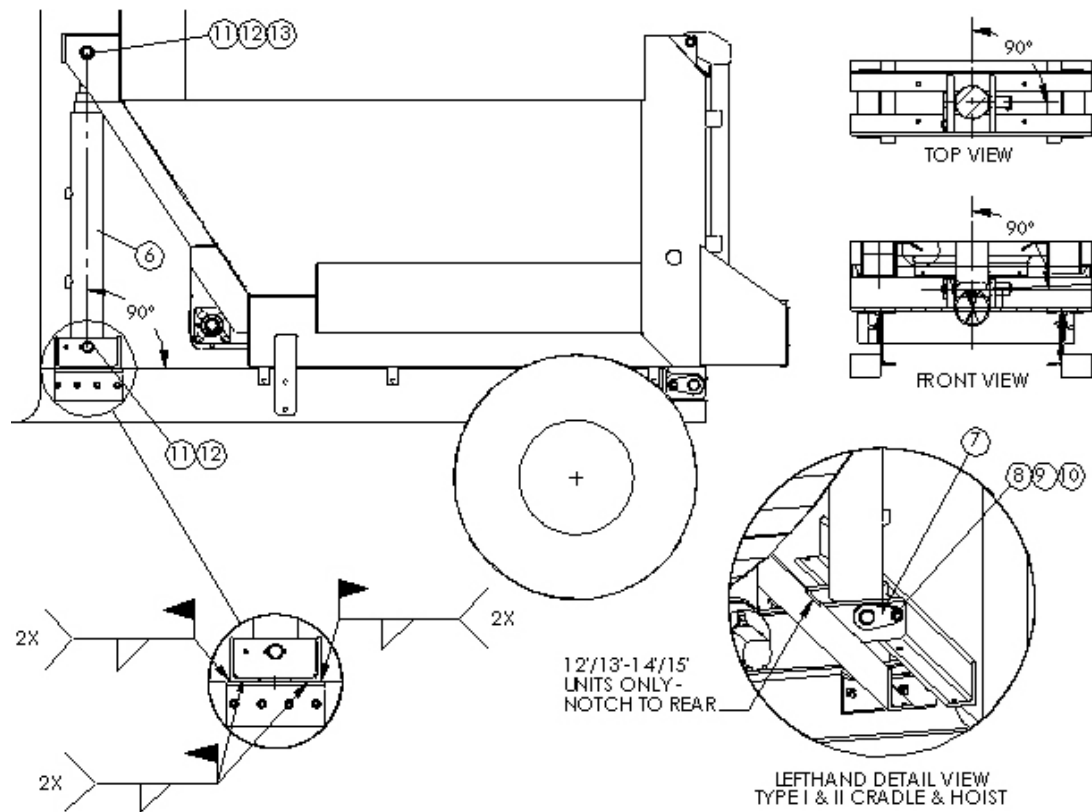

Figure 6 – Hoist Cylinder Installation
NOTE: Notch at center of cradle is positioned to rear on Type I & II 12'/13' – 14'/15' units as shown in Figure 6. (Type I & II 9'/10' – 11'/12' and Type III units don't have notch.)
2. Center Angles (2) under Cradle and mark center of eight holes on truck rails.
**NOTICE** Make sure Cradle is square with truck cab and rails, and Hoist Cylinder (6) will be centered from side-to-side on truck chassis and vertical when dump body is down.
5. Tack weld Cradle to Angles as shown in Figure 6.
4. Lift Hoist Cylinder (6) with a suitable lifting device, and place in Cradle (1) with hydraulic ports facing truck cab as shown in Figure 6.
13. Make sure cylinder is completely vertical in all directions when dump body is down. Adjust if necessary. Solid weld Cradle to Angles on truck frame rails using full fillet welds as shown in Figure 6.